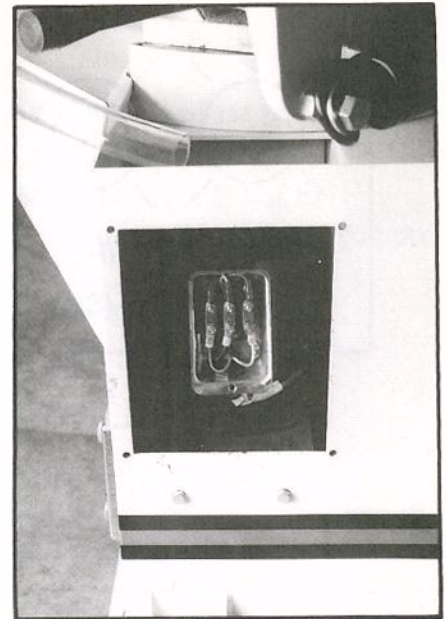

Fig. 1
- **Coolant Pump** - Remove access panel on right side of saw, remove junction box cover on pump, and follow diagram inside junction box cover. See Fig. 1